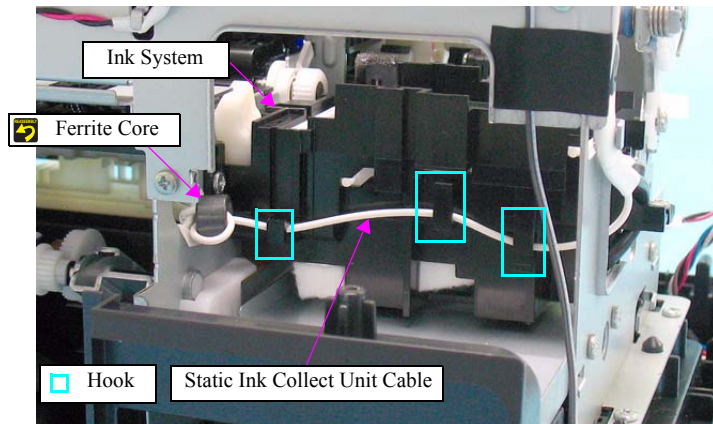

Figure 4-237. Removing the Ink System (1)
- Place the ferrite core of the Static Ink Collect Unit cable to the place as shown in Figure.4-237.